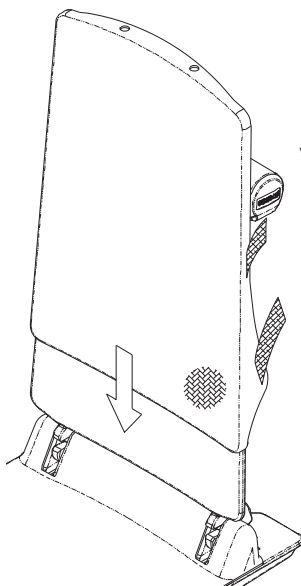

Fig. 10. Slide the Backrest Mat on to the Backrest
4. Center the Backrest Mat in the middle of the Backrest, as shown in Fig. 10.